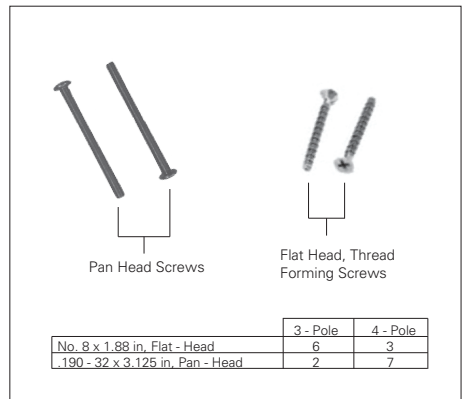

Figure 1. Cover Mounting Hardware.
2.1 Make sure that the circuit breaker is suitable for the intended installation by comparing nameplate data with existing equipment ratings and system requirements. Inspect the circuit breaker for completeness, and check for damage before mounting. Uninstalled cover mounting hardware is supplied in a plastic bag with the circuit breaker frame (See Figure 1).